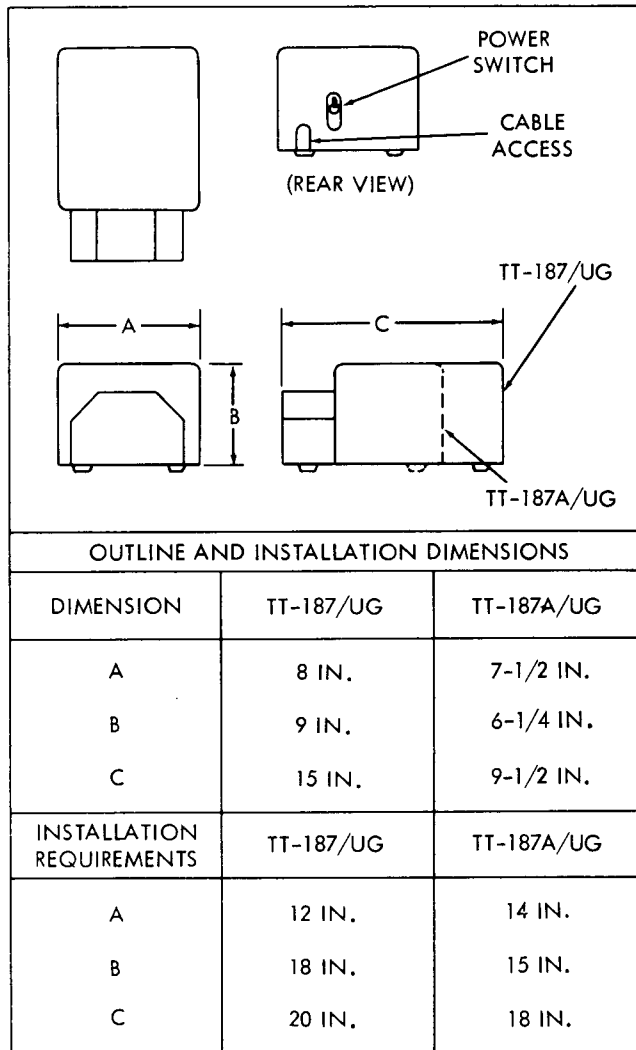

Figure 2-1. Outline and Mounting Dimensions
a. Distributor-Transmitters TT-187/UG and TT-187A/UG are self-contained installations supported on any flat surface large enough to permit the base to rest upon its own four telephone type feet. The location should be convenient to power and signal lines. Within limits of the slack in electrical connections, either set can be positioned readily after assembly or when in operation. Sufficient room should be allowed at the rear of the set for access to the main power switch. Sufficient clearance should be allowed at the left of the set to permit air circulation. Head room should be sufficient to lift the cover from the set. Outline dimensions and installation requirements are detailed in figure 2-1.